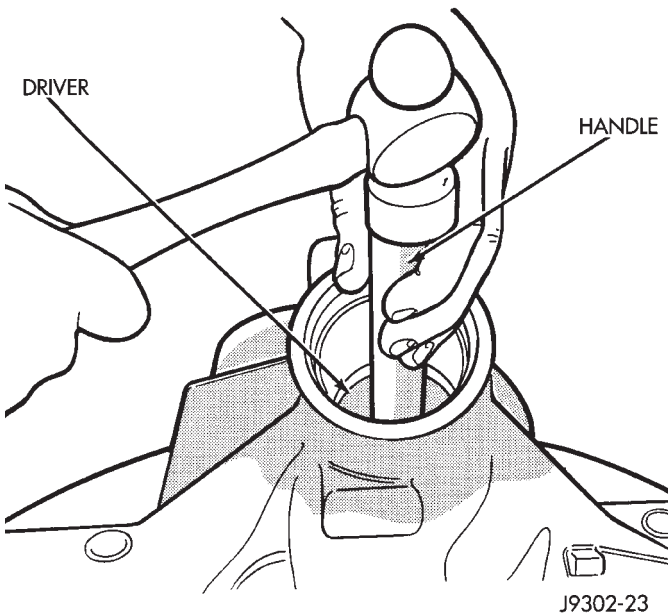

Fig. 31 Rear Bearing Cup Removal
(8) Remove the rear pinion bearing cup from axle housing (Fig. 31). Use Remover D-149 and Handle C-4171.